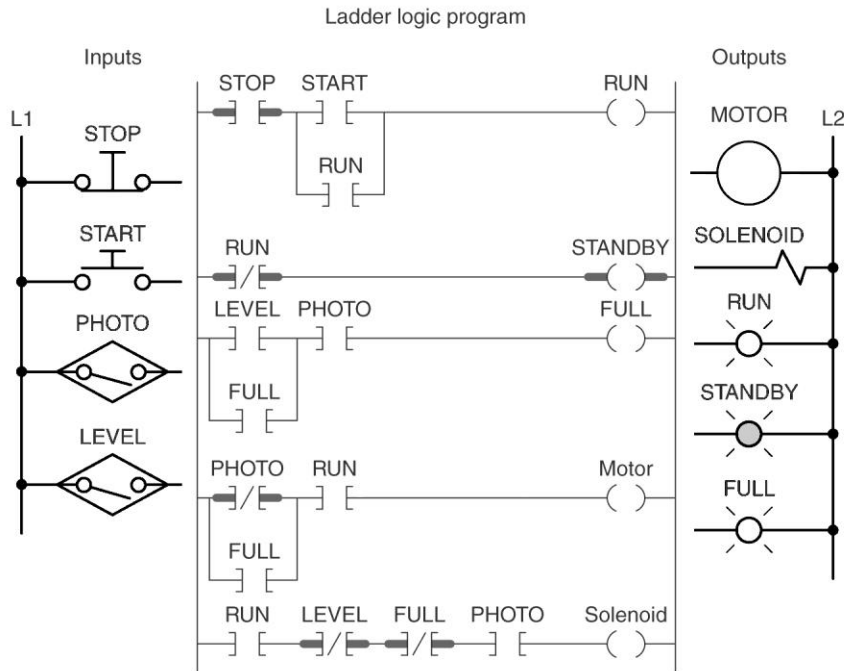

Figure 6-44
21) The continuous filling program of Figure 6-44 is described in the text. Prepare an I/O connection diagram and ladder logic program for the process. Use addresses that apply to your PLC. Enter the program into the PLC, and prove its operation.